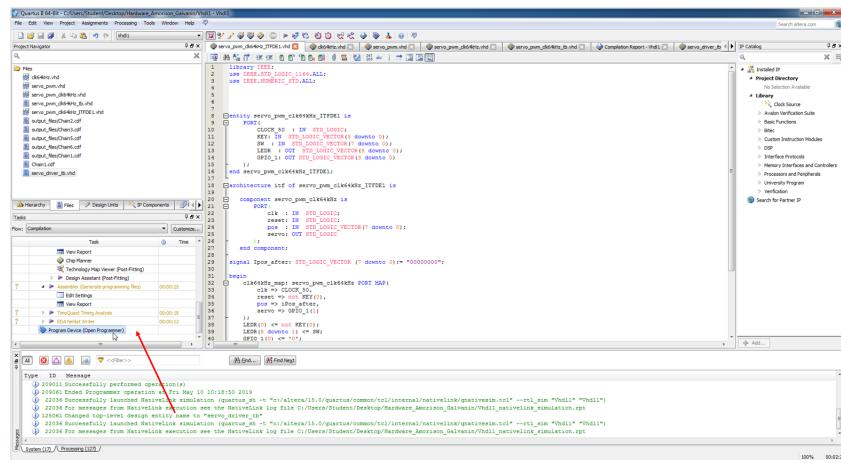

FIGURE 6.1 – Quartus II environment
- Click on Program Device (Figure 6.1) ;